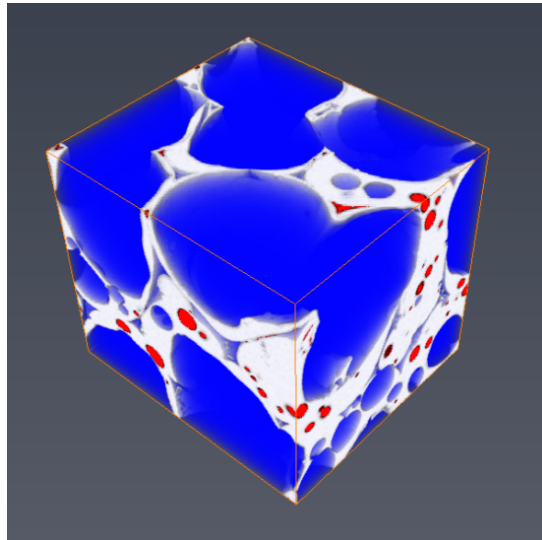

Figure 17.7: Connected Porosity vs. Unconnected Porosity
- To visualize the connected porosity vs. unconnected porosity: attach a *Subtract Image* module to the output of the *Auto Thresholding* module and to the output of the *Axis Connectivity* module. This will create a label representing the unconnected porosity (floating void). Attach a *Volume Rendering* to this data, and use the seismic colormap. This colormap will colorize in blue the data at 0 (connected porosity) and in red the data at 1 (unconnected porosity) Set the opacity to 0.2: it allows better visualization of the solid phase. (see Figure 17.7).